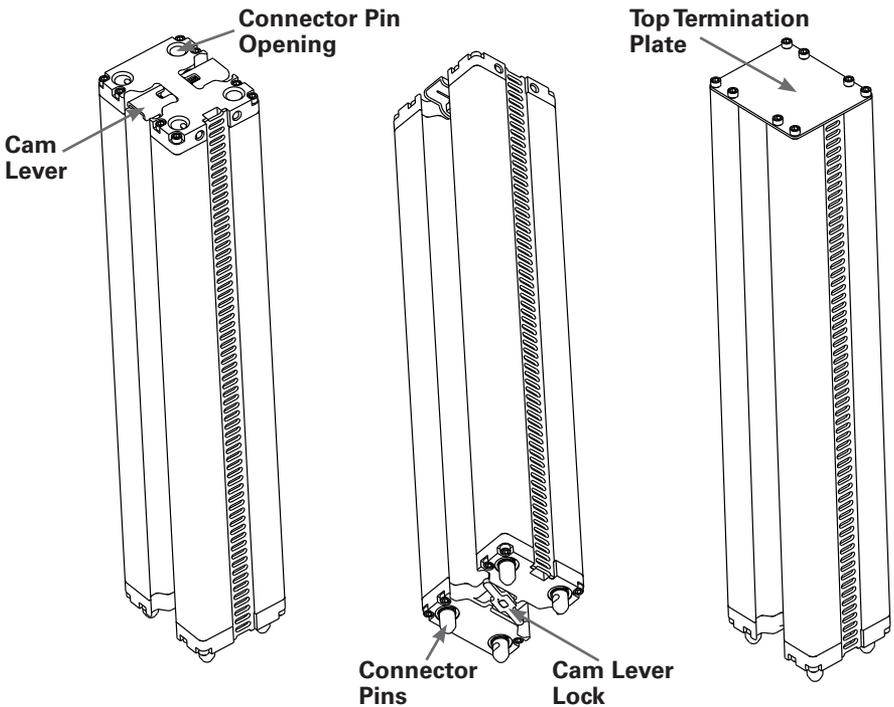

Figure 2.8 - Mast Connectors
4. **Mast Connectors** - Check to be sure the components of the Mast Connectors are present, undamaged, clear of debris and in good working condition. (See Fig. 2.8) **NOTE:** *Be sure the top mast Termination Plate is present, undamaged and securely attached to the mast section.*